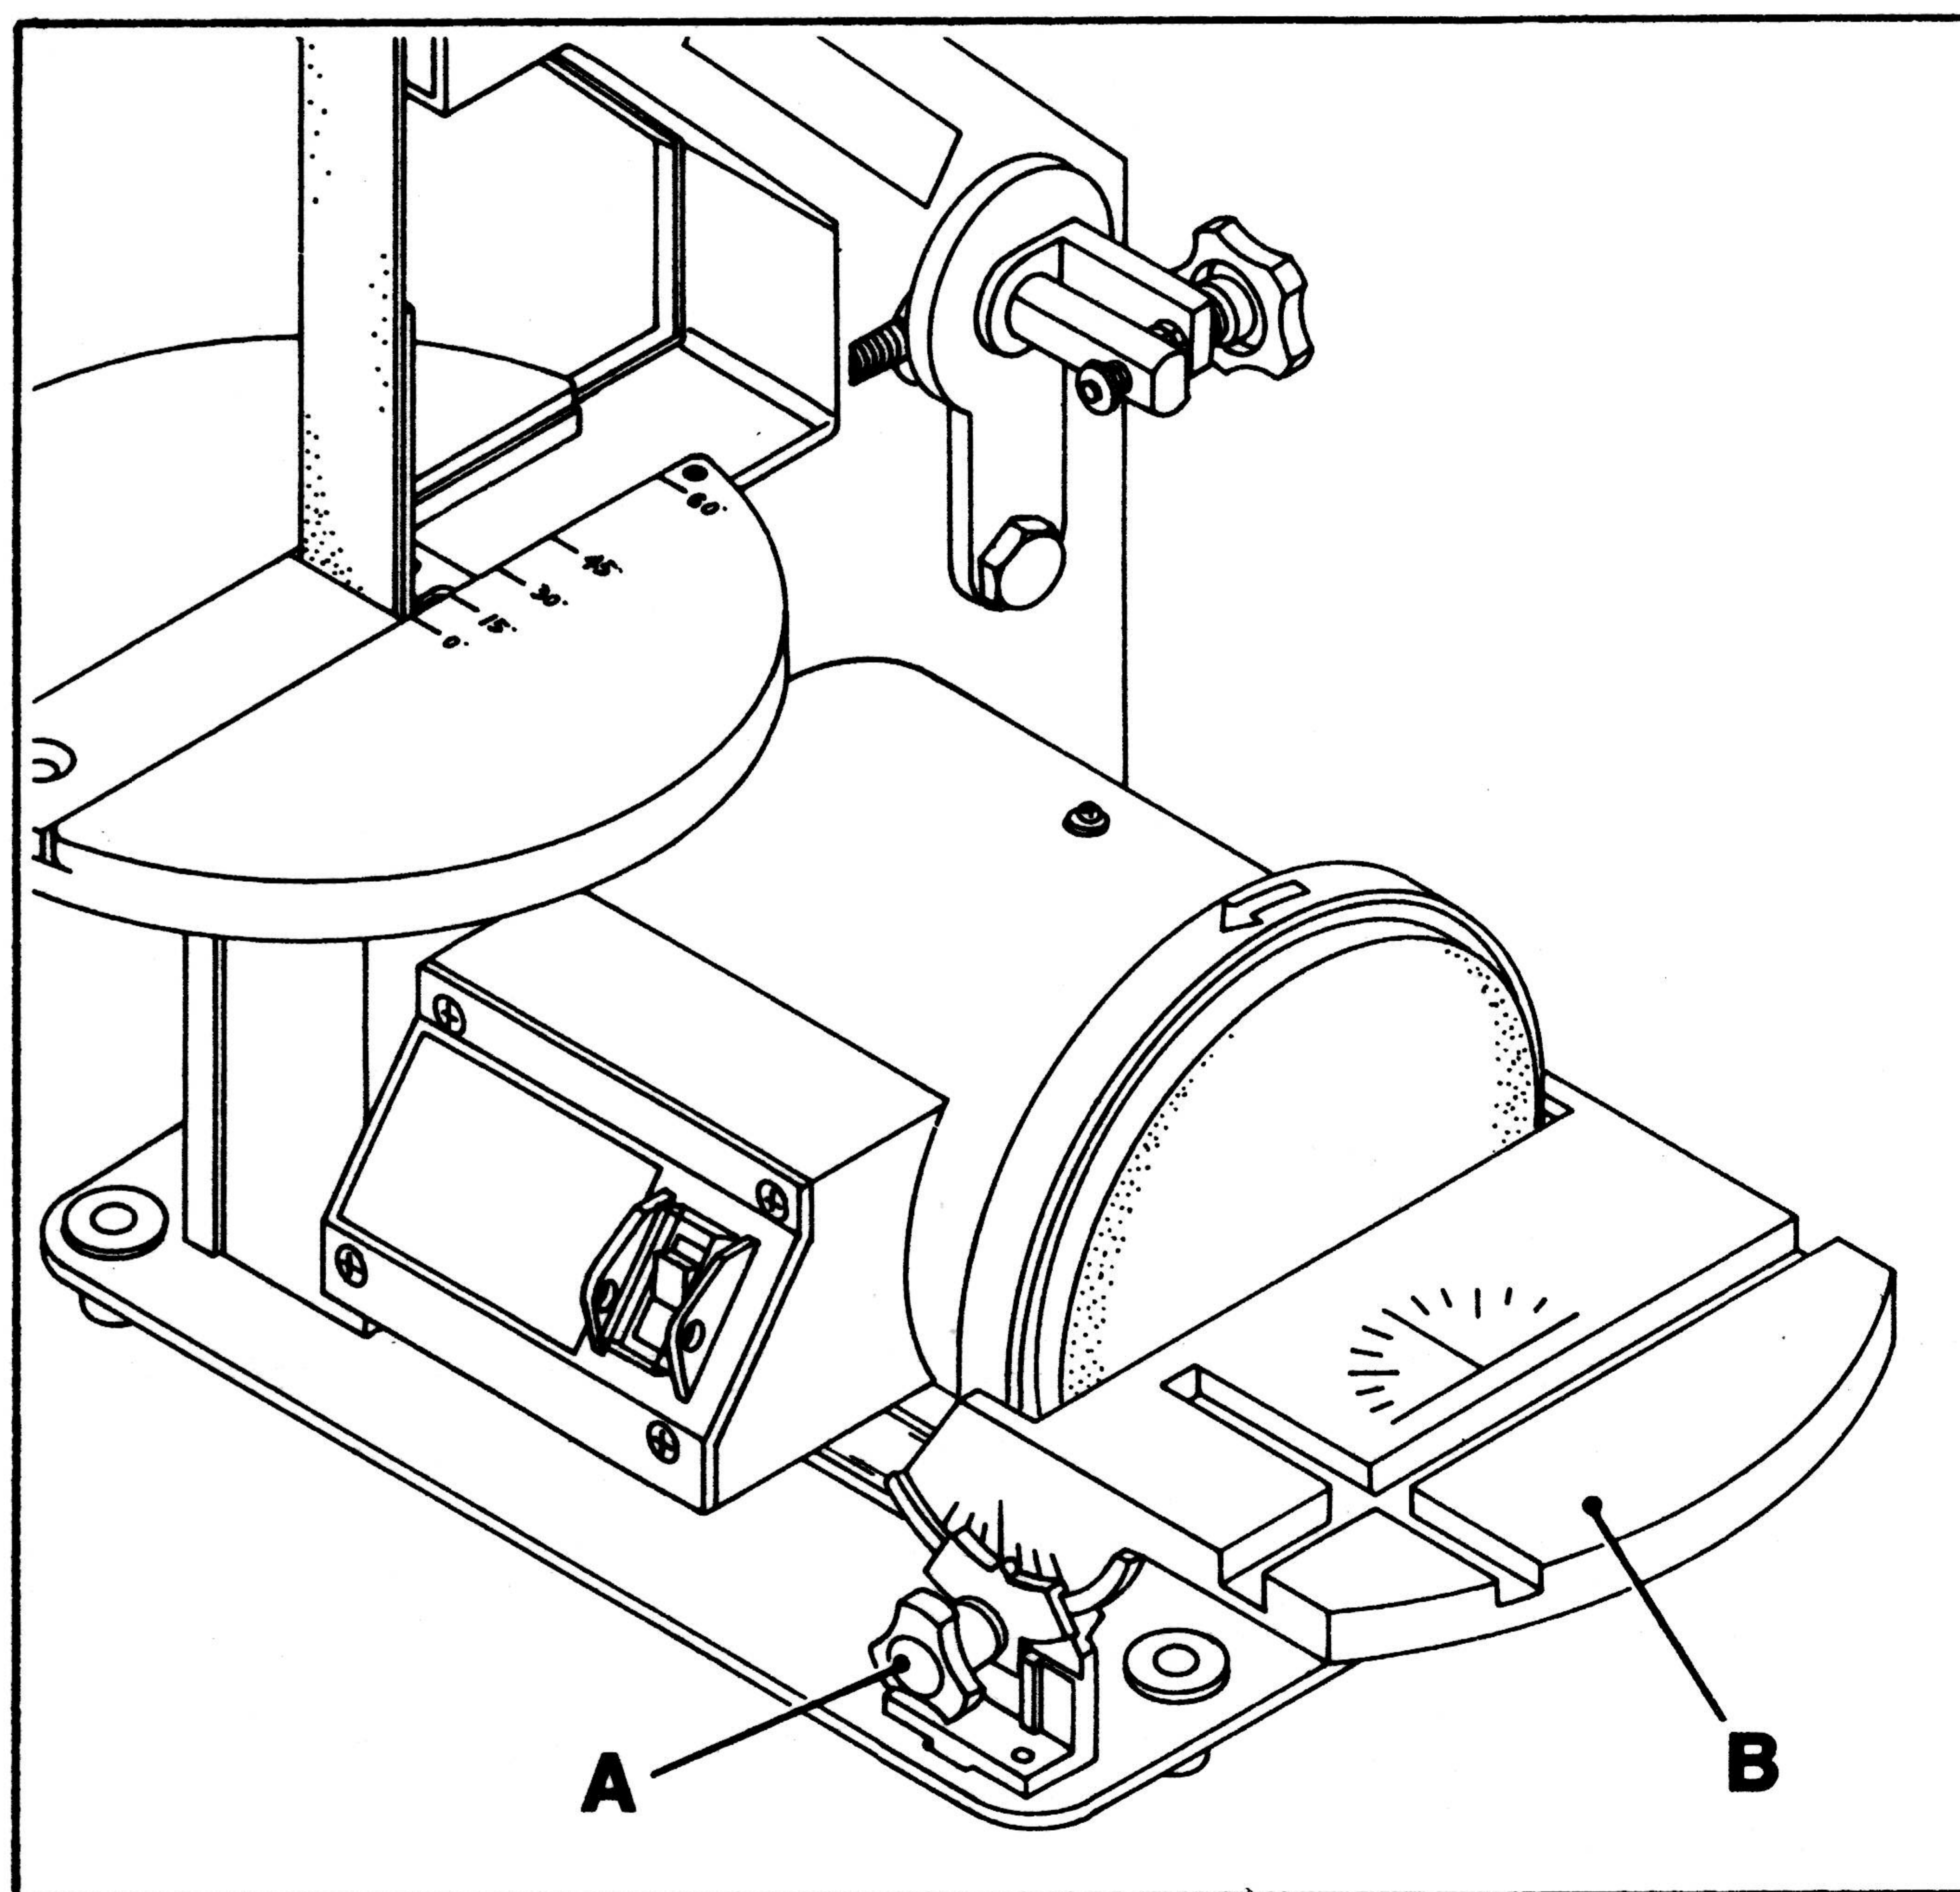

Fig. 7
3. The disc table (B) is shown completely assembled to the sander in Fig. 7. The disc table (B) can be adjusted by loosening the disc table adjustment knobs (A), moving disc table (B) to desired angle and tightening disc table adjustment knobs (B).